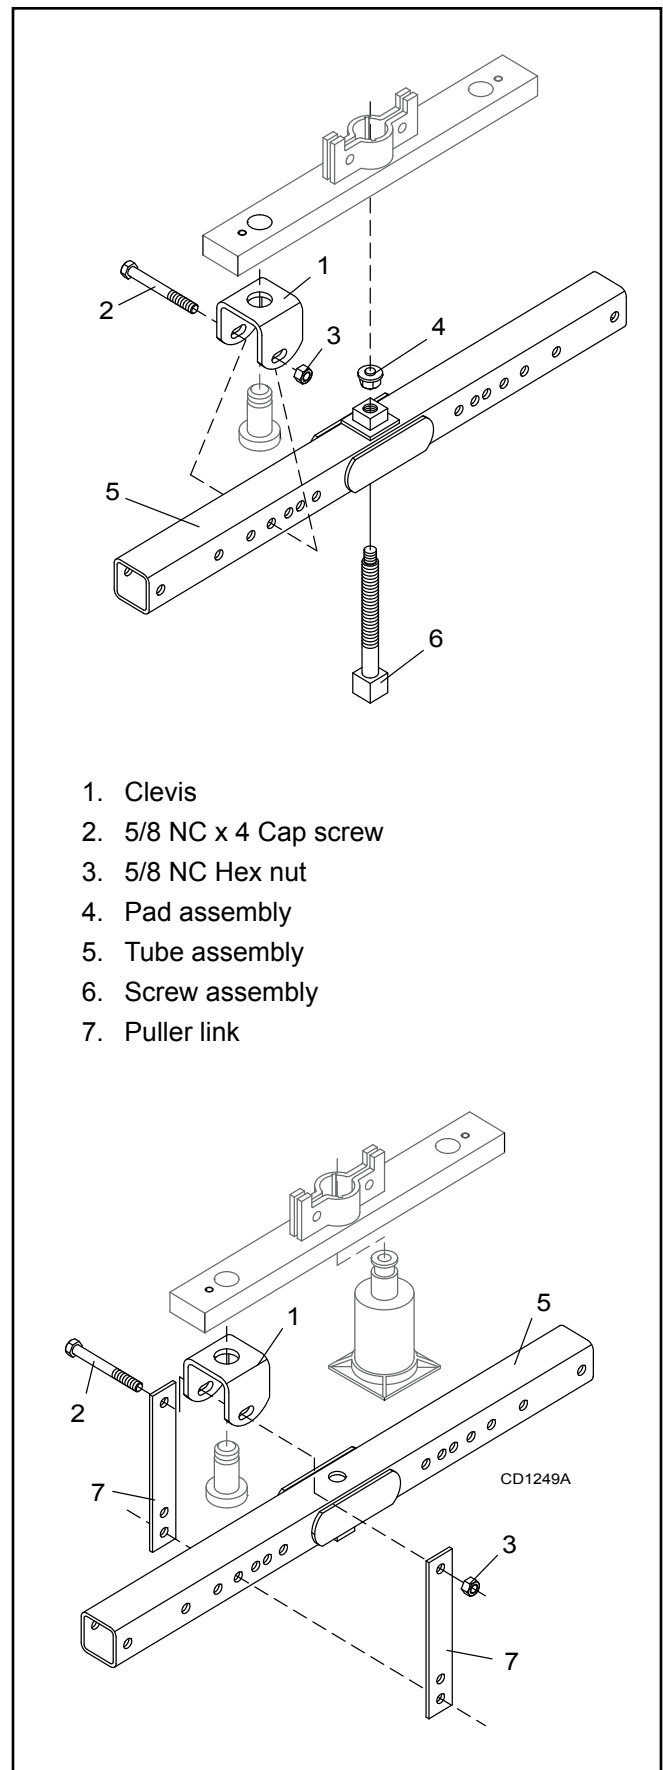

Figure 18. Crossbar Removal
3. Remove cotter pin and castle nut from bottom of crossbar, Figure 18.
4. Attach a clevis (1) to each end of crossbar, using blade pins, spacers, keyhole plates, and blade pin clips.
5. Position tube assembly (5) with threaded nut toward crossbar for puller screw removal or down for hydraulic jack removal.
6. For removal with puller screw, attach tube (5) to each clevis with bolts (2) and nuts (3). Place pad (4) in nut and thread puller screw (6) into nut from bottom. Tighten until pad is solid against gearbox shaft. For best results, strike head of puller screw with a hammer while tightening with a wrench.
7. For removal with a jack, attach tube to each clevis with puller links (7), bolts (2), and nuts (3). Place jack on tube with end of jack pressing against gearbox shaft. Slowly apply force with jack.